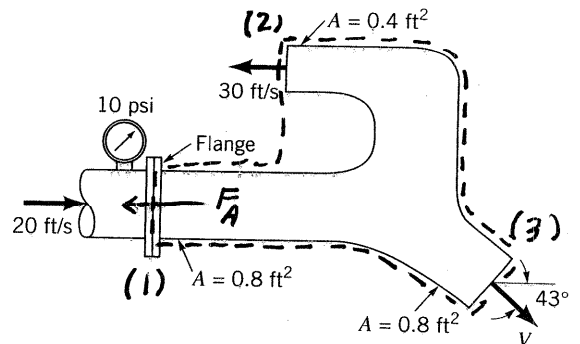

FIGURE P5.59
3.59 Water discharges into the atmosphere through the device shown in Fig. P5.59. Determine the x component of force at the flange required to hold the device in place. Neglect the effect of gravity and friction.